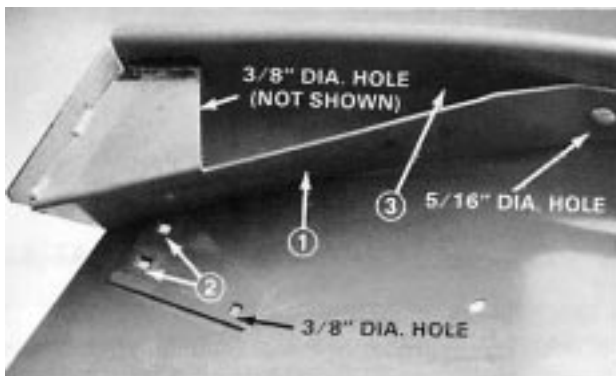

Figure 4
3. Position front baffle on underside of cutting unit, align (2) outside mounting holes with front deflector mounting holes (Fig. 4).
4. Using baffle as a template, mark and drill (2) 3/8" (9 mm) diameter holes and a 5/16" (8 mm) diameter hole in deck (Fig. 4).
5. Using appropriate mounting holes and fasteners, secure baffle to front wall of deck with a 1/4 x 5/8" (16 mm) carriage bolt and nut, and 5/16 x 5/8" (16 mm) carriage bolt and nut. Leave (3) remaining mounting holes open at this time.